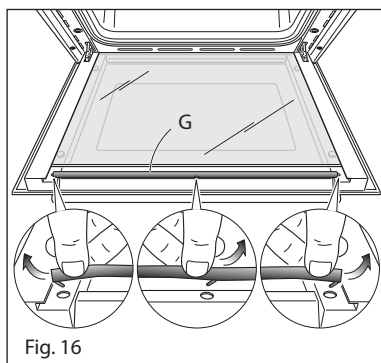

Fig. 16
- Top oven door only: remove the seal **G** by unhooking the no. 3 fixing hooks (fig. 16).